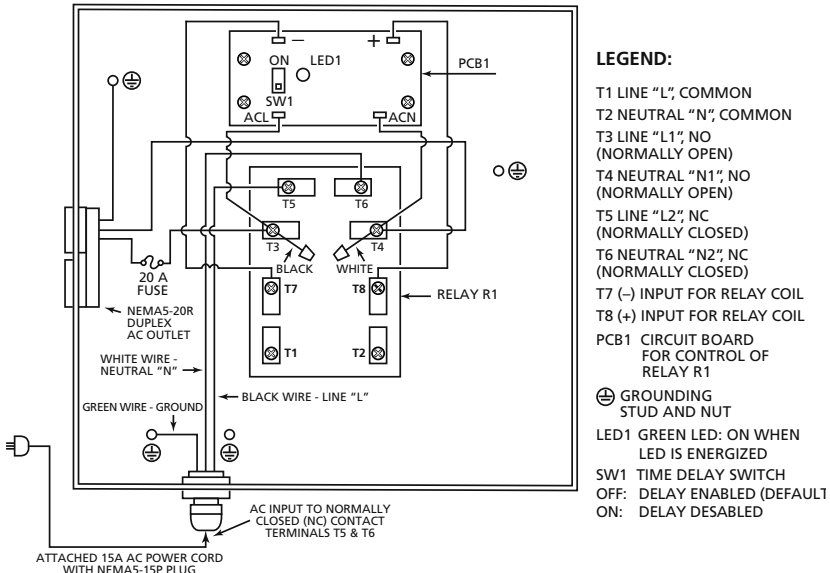
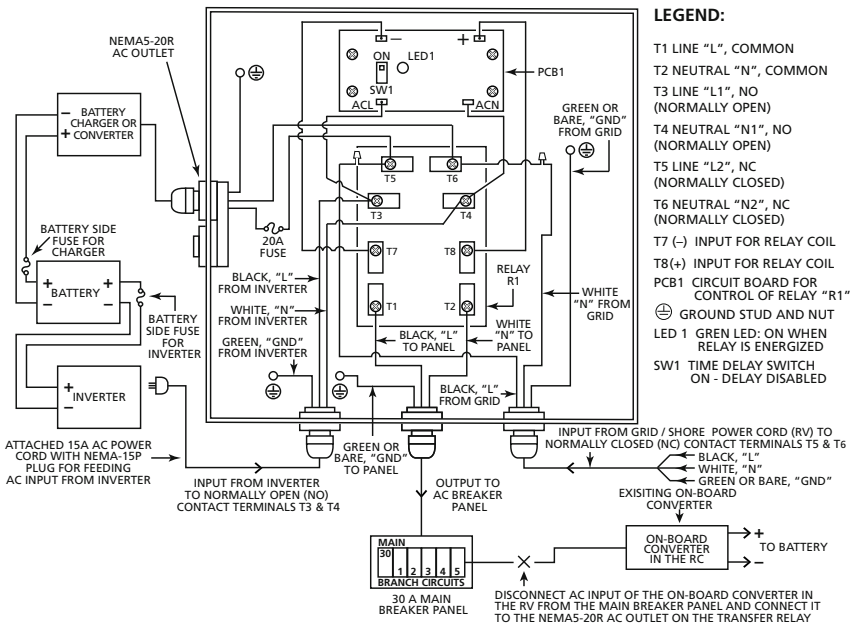

Fig. 5.2 Pre-wired connections
Fig. 5.4 Switching Between Inverter (Primary Source) and Grid (Backup Source)
This Transfer Switch has been especially pre-wired for ease of connections for setting up a backup power / UPS (Un-interruptible Power Supply) system with Grid / Shore Power as the Primary Source and the Inverter as the Backup Source. The System will require an Inverter, a Battery Charger and batteries. General overview and features for the pre-wired configuration are given below (Refer to Fig. 5.2).
Connection arrangement for above application is shown in Fig 5.4. Some internal connections will have to be changed as explained below:
- a. Re-arrange the pre-wired internal connections (Fig 5.2) to those shown in Fig 5.4 as follows:
- d. Use AWG#10/3 cable to connect the AC output to the Main Breaker Panel by using a convenient knockout / cable clamp (3/4" or 1") for cable entry. Cable clamp has not been provided for this connection and has to be provided by the user. Connect the 3 wires as follows (Fig 5.4):
- e. Plug the NEMA5-15P plug (2, Fig 3.1) of the Inverter power cord (1, Fig 3.1) to the output of the Inverter (Fig 5.4). As pointed out earlier, in case the Inverter capacity is >1800 VA & up to 3600 VA, appropriate connection arrangement using AWG#10/3 wiring will have to be used. **Please ensure that the Inverter is switched OFF and the battery input connection to the Inverter is disconnected.**
- f. Plug the external Battery Charger / Converter to one of the receptacles of the NEMA-20R Duplex receptacle (3, Fig 3.1; Fig 5.4). **Please ensure that the AC input current of the Battery Charger is less than 16A continuous as the receptacle is internally fused at 20A max. In case the current drawn by the external Battery Charger is > 16A continuous, it should be wired to a separate circuit connected to the NC contact terminals T5 and T6 through a fuse applicable to the input current of the Battery Charger.**
- g. **In case the Transfer Switch is being used in an RV application, the built-in Converter of the RV should be disconnected from the AC Breaker Panel (Fig 5.4).** This is necessary because when the panel is fed by the Inverter and if the Converter is not disconnected from the panel, it will result in a battery to Inverter to Converter to battery loop that will quickly drain the batteries. In case the external Battery Charger is not being used, the Converter may be re-wired to the NEMA5-20R Duplex receptacle (3, Fig 3.1). As these receptacles are connected to the NC contact terminals T5 and T6, the Converter will always be powered from the Grid / Shore Power Cord / the Generator.